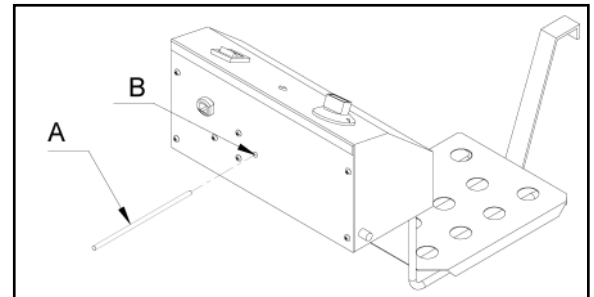

Fig. 11-2
**NOTE:** If the temperature of the fat should get too high or if the elements are left “ON” in the raised position, or while cleaning, the “HI LIMIT” control will turn off the unit. If this occurs, turn the thermostat to “OFF” position, allow the fryer to cool and press the reset button on the back of the control box. To gain access to reset button, unscrew cover on back of control box. After resetting the unit, to protect reset button during operation, reinstall the cover over the reset button by screwing it back on control head. Normal operation can be resumed (Fig. 11-2).